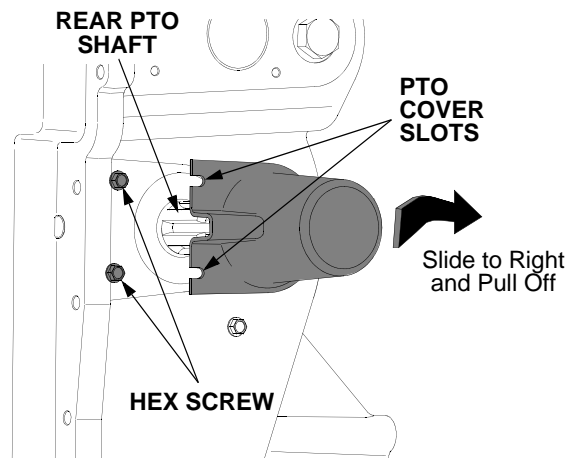

Figure 22
- Loosen the two screws on the left side of the cover. Refer to Figure 22.
- Slide the cover to the right until the slots of the cover are free of the screws and pull the cover off. Refer to Figure 22.
- When finished using the rear PTO, slide the cover fully onto the shaft; then slide the cover to the left until the slots are underneath the screw heads. Tighten the screws to secure the cover. Refer to Figure 22.